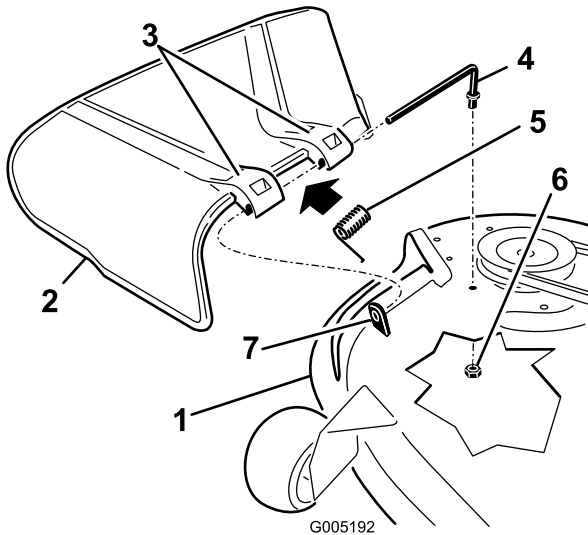

Figure 56
1. Remove the nut (3/8 inch) from the rod under the mower (Figure 56).
9. Secure the rear end of the rod into the mower with a nut (3/8 inch) as shown in Figure 56.
2. Slide the rod out of the short standoff, the spring, and the grass deflector (Figure 56).
4. Replace the grass deflector (Figure 56).
7. Slide rod through the second grass-deflector bracket (Figure 56).